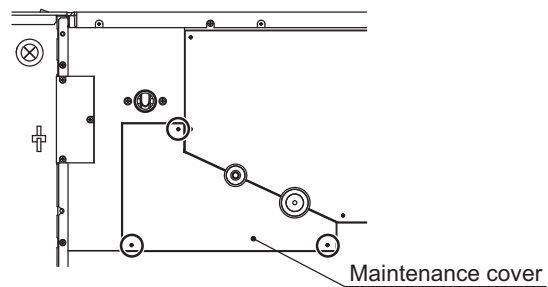

Fig.4
4. Remove the fixing screws shown in Fig. 4, and remove the maintenance cover.